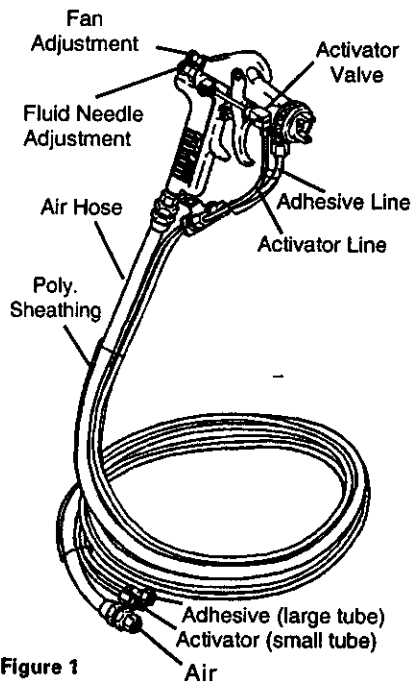

Figure 1
5. Adjust fan pattern size as required by turning the "fan adjustment knob" (Figure 1). Turn clockwise to reduce fan size or counterclockwise to increase.